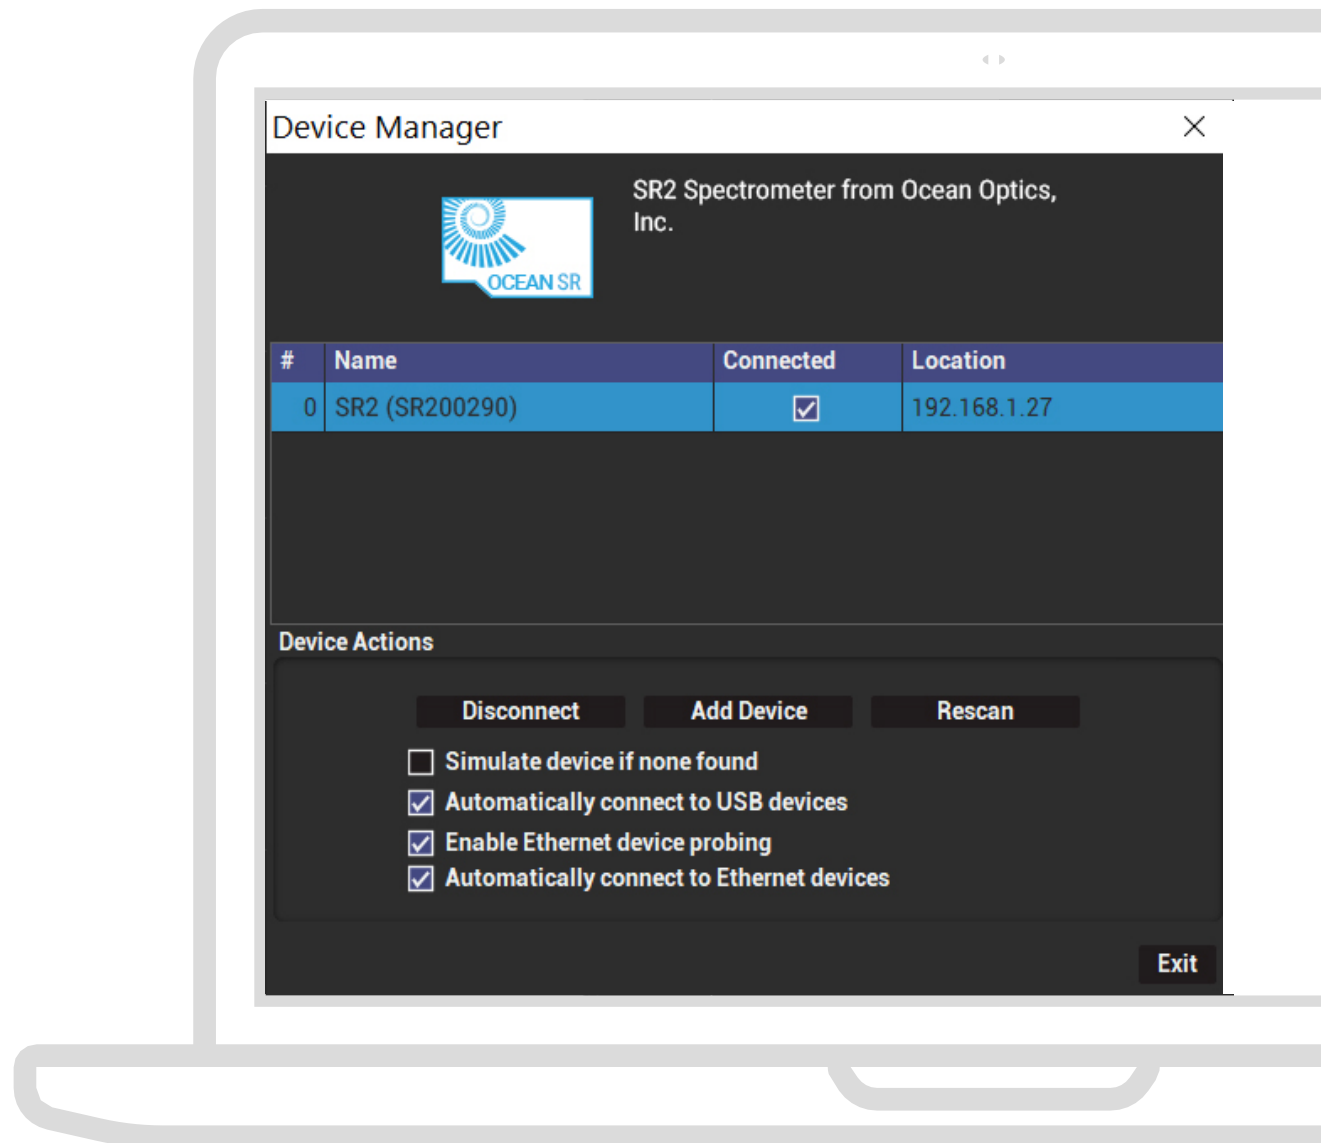

Figure 1 Device Manager showing SR2 connected on the network
- a. Open the Device Manager by clicking on the Magnifying Glass icon or pressing the F5 key. An example Device Manager window is shown in Figure 1.